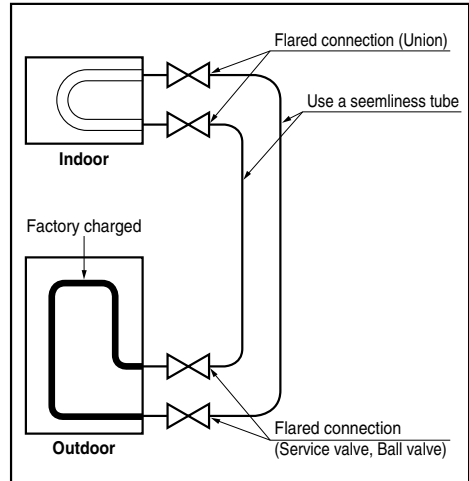

**Fig.1 Typical locations for remote controller**
- This remote controller is equipped with a seven segment LED. display. For proper display of the remote controller LED's, the remote controller should be installed properly as shown in Fig.1. (The standard height is 1.2~1.5 m from floor level.)